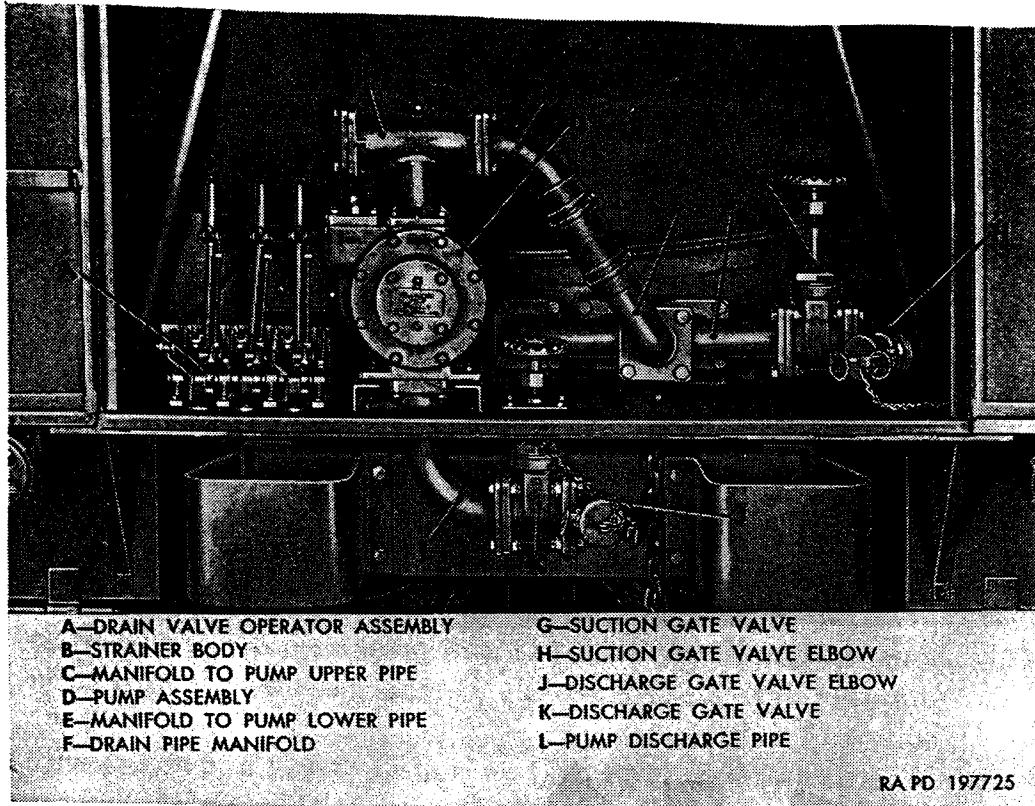
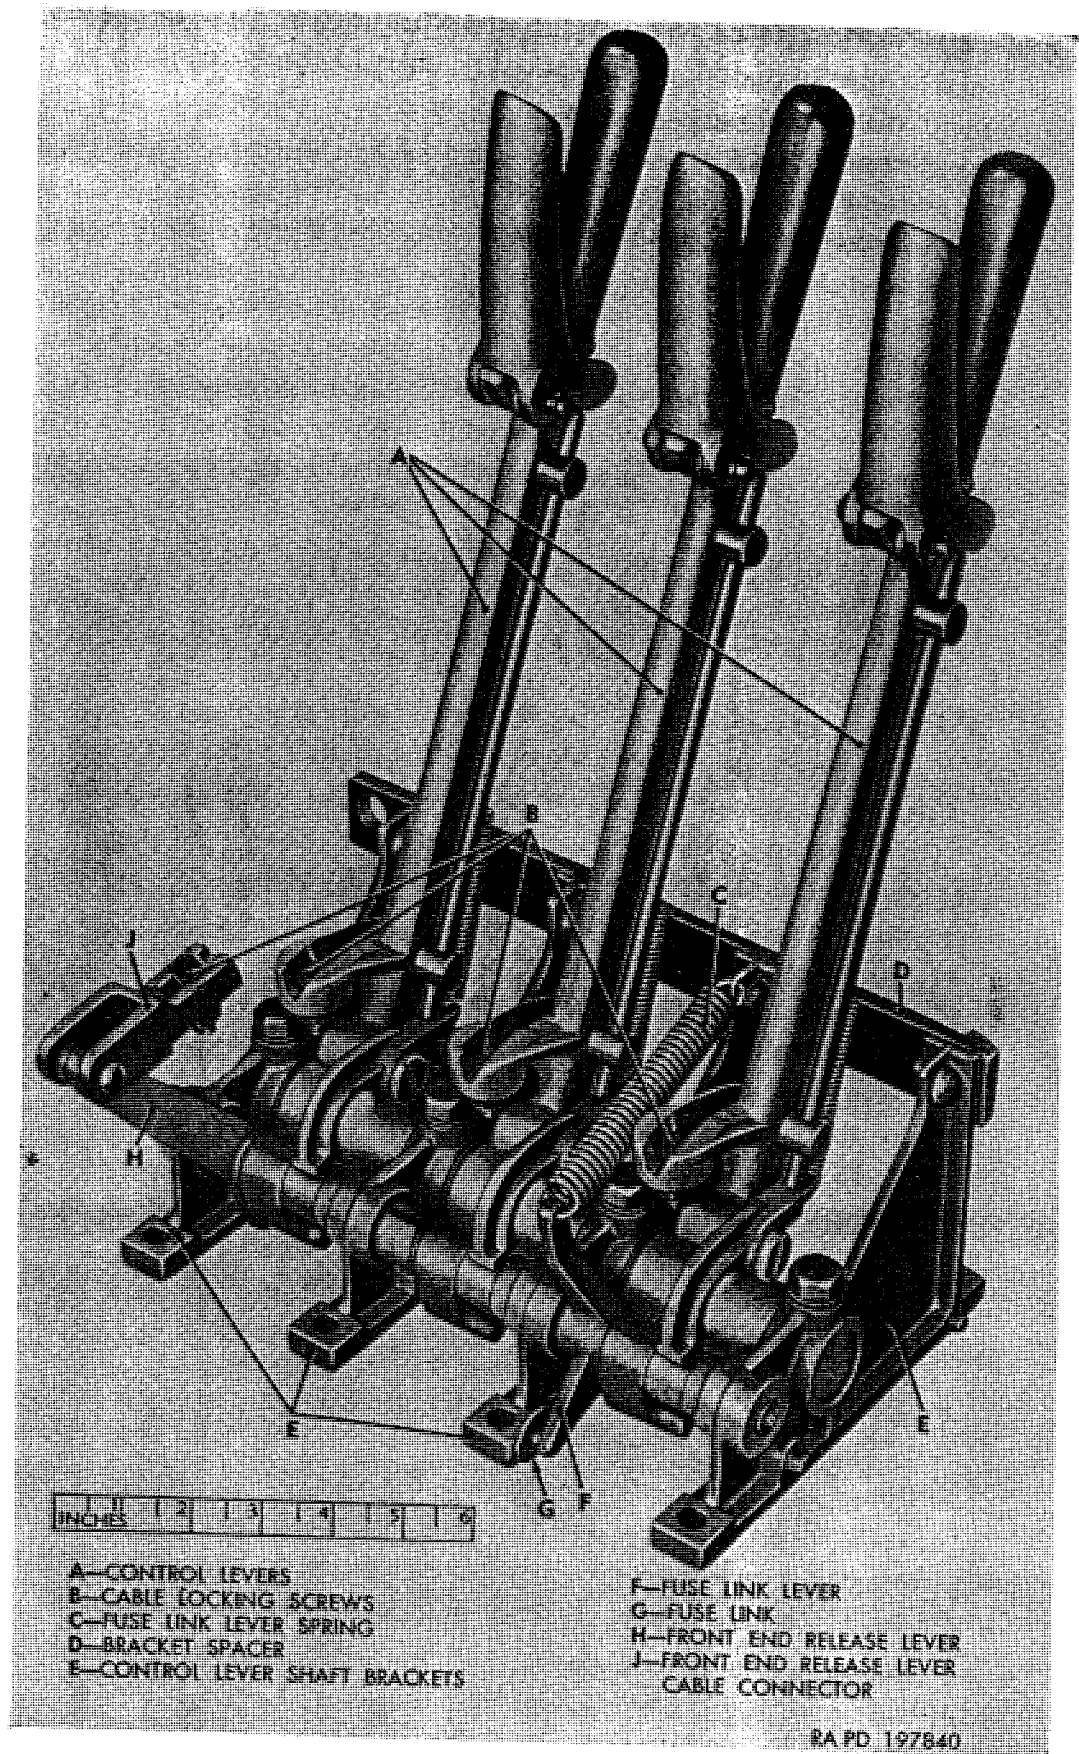

Figure 384. Units installed in pump compartment.
Figure 385. Drain valve operator assembly.
(fig. 384)
a. General. Gasoline tank pump suction and discharge gate valves, installed as shown in figure 384, are identical to gate valves used on water tank truck M222. Use of gate valves on gasoline tank is described in paragraph 55. Gate valve packing gland nut can be tightened or packing can be replaced to correct leakage at valve stem without removing the valve assembly from the vehicle. If replacement of packing does not correct leakage, or if valve becomes inoperative for other reasons, replace gate valve assembly.
tical to those used in water tank truck M217, and are controlled by operating levers in pump compartment as described in paragraph 55. Drain valves, drain pipes, and cables are accessible from under vehicle. Drain valve controls installed in pump compartment are shown in figure 384. Drain valve cam shaft packing can be replaced without removing the drain valve from the tank. Drain valve should be removed from tank for all other services to avoid the necessity of entering the tank compartment.
- (1) Make sure mating surfaces of valve body, drain pipe flange and tank sump are clean. Coat both sides of new gaskets with gasket cement and position gaskets on drain pipe flange and on tank sump.
- (2) Position valve assembly at sump and drain pipe, being careful not to dislodge gaskets. Attach valve body to sump by installing six $\frac{3}{8}$ -24 safety nuts on studs. Attach drain pipe flange to valve body with six $\frac{3}{8}$ -24 x $1\frac{1}{4}$ cap screws and $\frac{3}{8}$ -24 safety nuts. Tighten all nuts.
- (3) Connect cable yoke to cam shaft lever with clevis pin and cotter pin.
f. Drain Valve Control Cable Replacement (fig. 385). The following procedure applies to either of the three drain valve operating cables and to the front end release cable. Cable lengths are as follows: rear compartment drain valve is 84 inches; center compartment drain valve is 132 inches; front compartment drain valve and front end trip release cables is 156 inches.
- (1) In pump compartment, disconnect cable from valve operating control lever (A) or from front end release lever cable connector (J) by loosening nut on cable locking screw (B) and pulling cable from screw.
- (2) From under vehicle, pull cable out of rear guide tube. Disconnect cable from cable connector at drain valve cam shaft lever by loosening nut on cable locking screw and pulling end of cable out of screw. To remove front end release cable, disconnect cable from release handle in same manner, then pull cable out of front end guide tube.
- (3) Solder end of new cable to prevent spreading of strands. From under vehicle, insert cable through guide tube, applying chain and wire rope lubricant (CW) to cable as cable is inserted into tube. Push cable through tube just far enough to make connection at control levers. If front end release cable was removed, insert front end of cable through front end guide tube in same manner.
- (4) Insert end of cable through locking screw in drain valve cam shaft lever cable connector or in front end release handle and tighten nut on cable locking screw. Make sure cables are in place on cable spools (guide pulleys).
- (5) In pump compartment, insert end of cable through locking screw (B) in operating control lever or in front end release lever cable connector. Provide for slight slack in cable with control lever and valve in closed position; then tighten nut on cable locking screw.
Note. The key letters in parentheses are in figure 385 except where otherwise indicated.
Drain valve operator comprises the drain valve control levers together with their mounting brackets, shafts, bearings, etc., as a unit assembly (fig. 385). Operator assembly installed is shown in figure 384.
- (1) Loosen nuts on cable locking screws (B). Withdraw ends of cables from locking screws. Unscrew four nuts securing cable guide tubes to bracket spacer (D).
- (2) Remove eight cap screws and nuts attaching control lever shaft brackets (E) to bottom of compartment. Lift operator assembly out of compartment.
- (3) Position new or rebuilt operator assembly on equipment compartment floor, guiding cable ends through openings in bracket spacer (D). Thread cable guide tube nuts into bracket spacer.
- (4) Attach control lever shaft brackets (E) to compartment floor with eight $\frac{1}{4}$ -28 x 1 cap screws and $\frac{1}{4}$ -28 safety nuts. Tighten nuts.
- (5) Thread ends of cables through locking screws (B) in control levers and in front end release lever cable connector. Provide for slight slack in cables with levers in forward (valves closed) position; then firmly tighten nuts on cable locking screws.
h. Drain Valve Operator Fuse Link Replacement (fig. 385).
- (1) Fuse link (G) consists of two brass links soldered together. One end of link is anchored to one of the control lever shaft brackets, and the other end acts as an anchor for the lower end of the fuse link lever (F). The lever is spring-loaded against the link at all times by the fuse link lever spring (C). If fuse link becomes separated for any reason and one or more of the drain valve control levers are in open position, spring rotates lever and causes cams to release the control levers, permitting valve to close.
- (2) To replace fuse link, remove cotter pins securing link ends on bracket and lever. Place end of new link on lug on bracket and secure with cotter pin. Pull rearward on upper end of fuse link lever, stretching fuse link lever spring (C), until link end can be hooked onto lower end of lever. Secure link end on lever with cotter pin.